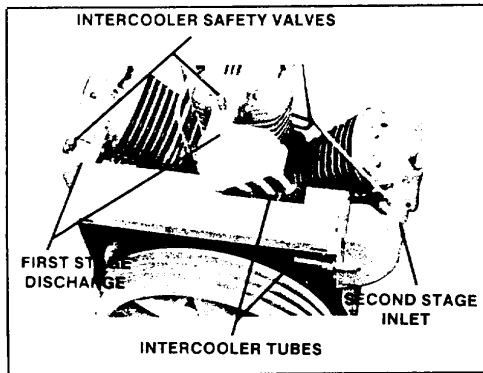

Figure 4-2. Typical Intercooler Tubes and Safety Valves.
This compressor is equipped with an intercooler between the first-stage and the second-stage See Figure 4-2. The purpose of the intercooler is to remove most of the heat of the first-stage compression from the air before it enters the second-stage, thus improving efficiency and decreasing the final discharge air temperature.
1. Intercooler Safety Valve-The Model 7100 will be supplied with one 80 PSIG (5.6 kg/cm²) safety valve installed in the intercooler, and the Model 3000 will be supplied with two 80 PSIG safety valves installed in the intercooler. See Figure 4-2.